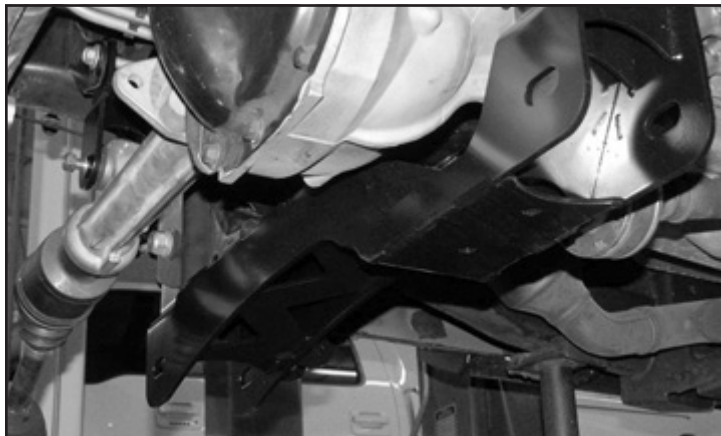

FIGURE 23 - STEP 24
24. Locate the Fabtech rear crossmember (FT30376BK). Install the rear crossmember in the factory rear lower control arm pockets. Mount the crossmember using the factory control arm pivot hardware. Leave all hardware loose. All the tabs on the face of the crossmember should be pointed to the rear of the vehicle. **SEE FIGURE 23**